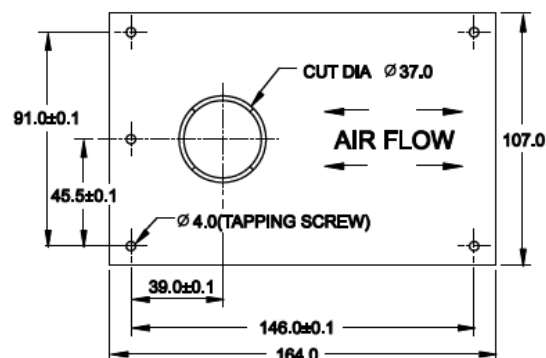

Fig. 2 Mounting Template.
- Punch or drill the holes of $\Phi 4.0$ for fixing of M5 screws (5EA included). See figure 2.